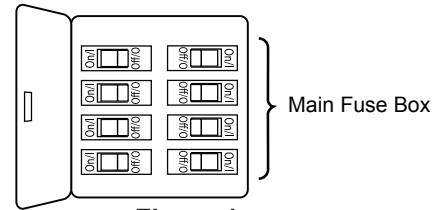

Figure 1
Your new ceiling fan will require a grounded electrical supply line of 120 volts AC, 60 HZ, 15 Amp Circuit. Electrical code requires use of a fan-rated outlet box to support the extra weight and motion associated with a ceiling fan. A fan-rated box will be labeled as such and typically supports up to a 70lb ceiling fan. Fan-Rated Outlet Boxes vary in ratings and design. Ensure the ratings of your ceiling fan outlet box meet the requirements for the ceiling fan being installed. Figure 1, Figure 2 and Figure 3 depicts different structural configurations that may be used for mounting the outlet box.
Low profile box (Figure 1)
To avoid possible electrical shock, be sure electricity is turned off at the main fuse box before hanging. (Figure 1) **NOTE:** If you are not sure if the outlet box is grounded, contact a licensed electrician for advice, as it must be grounded for safe operation.
1. Assemble the motor assembly to ceiling bracket using the previously removed screws and securely tighten all screws. (Figure 1)
1. Slide blades through slots in motor housing and attach to the motor hub using the #8-32 pan head screws. Make sure the screws securing the blades to the motor hub are tight and are properly seated. (Figure 1)
- ☐ 1. Remove one of the three screws in the support bracket at the bottom of the motor assembly and retain the screw for later. Slightly loosen the remaining two screws. (Figure 1)
1. **IMPORTANT:** Using a full range dimmer switch (not included) to control fan speed will damage the fan. To reduce the risk of fire or electrical shock, do not use a full range dimmer switch to control the fan speed. (Figure 1)